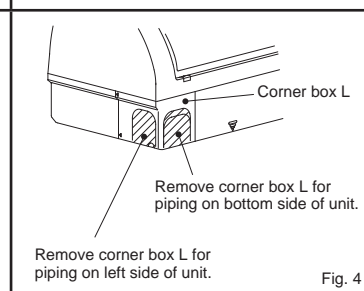
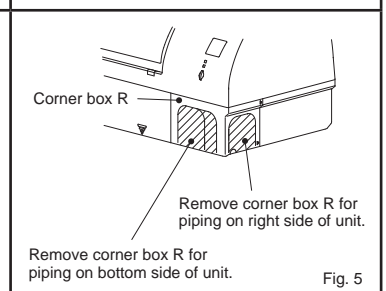

Fig. 4
Fig. 5
- According to the piping direction, remove the shaded part of the corner box L (Fig. 4) or corner box R (Fig. 5). Reinstall electrical cover, corner box and front panel.
- Insert the drain hose fully into the drain pan at the back right of the indoor unit. (Fig. 4)
- Insert the drain hose into wall hole sleeve (C), and attach the upper part of indoor unit onto the installation plate (1). Then, shift the indoor unit completely to the left to make placing the piping in the back of the unit easier.
- Cut out a piece of cardboard from the shipping box, roll it up, hook it onto the back rib, and use it as a spacer to lift the indoor unit. (Fig. 5)
- Connect the refrigerant piping with the extension pipe (B).
- Attach the lower part of the indoor unit into the installation plate (1).
- When connecting the drain hose to a hard vinyl chloride pipe, be sure to insert it securely into the pipe. (Fig. 4)
- 4) Flaring work (Fig. 4, 5). Firmly hold copper pipe in the dimension shown in the table. Select A inch (mm) from the table according to the tool you use.